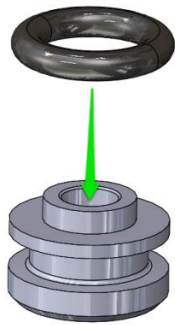

Fig. 23
- a. Lubricate and install the HP O-ring V2.010 onto the 6493 Seat (Fig. 23). Place the sealing edge of the seat 6493 down onto the small diameter end of a clean HP Seat tool 40.6536.2. Use care not to damage the seating surface of the seat 6493 (Fig. 24).